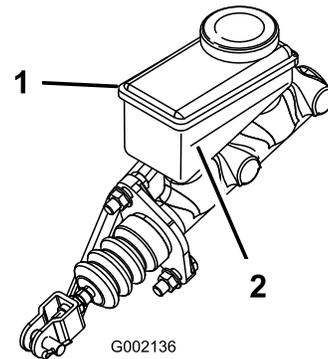

Figure 18
- Look at the outline of the fluid level at the side of the reservoir. (Figure 18).
- Add DOT 3 brake fluid to the reservoir until the fluid level is above the Minimum line (Figure 18).
- Install the rubber plug in top of the dash (Figure 18).